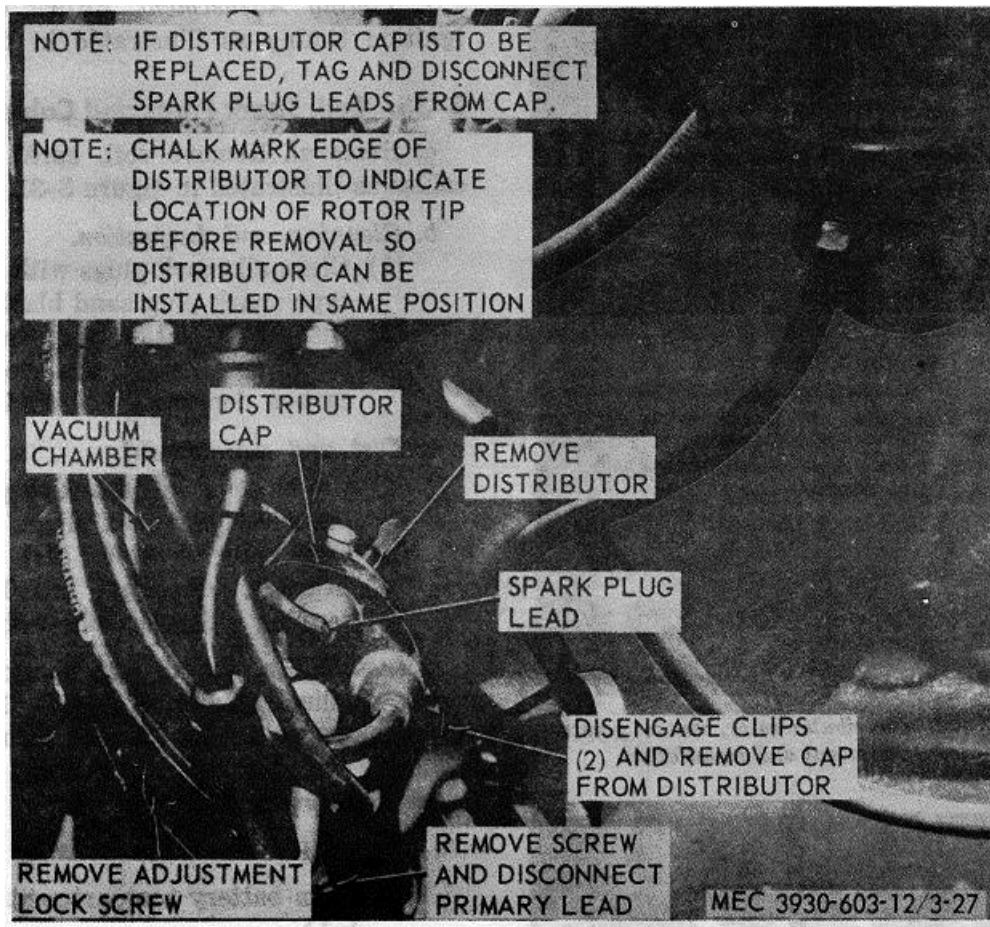

Figure 3-27. Distributor assembly, removal and installation.
- STEP 4. REMOVE DISTRIBUTOR CAP (FIG.3-27) AND TURN ROTOR UNTIL IT POINTS TO NO.1 SPARK PLUG CABLE IN DISTRIBUTOR CAP.